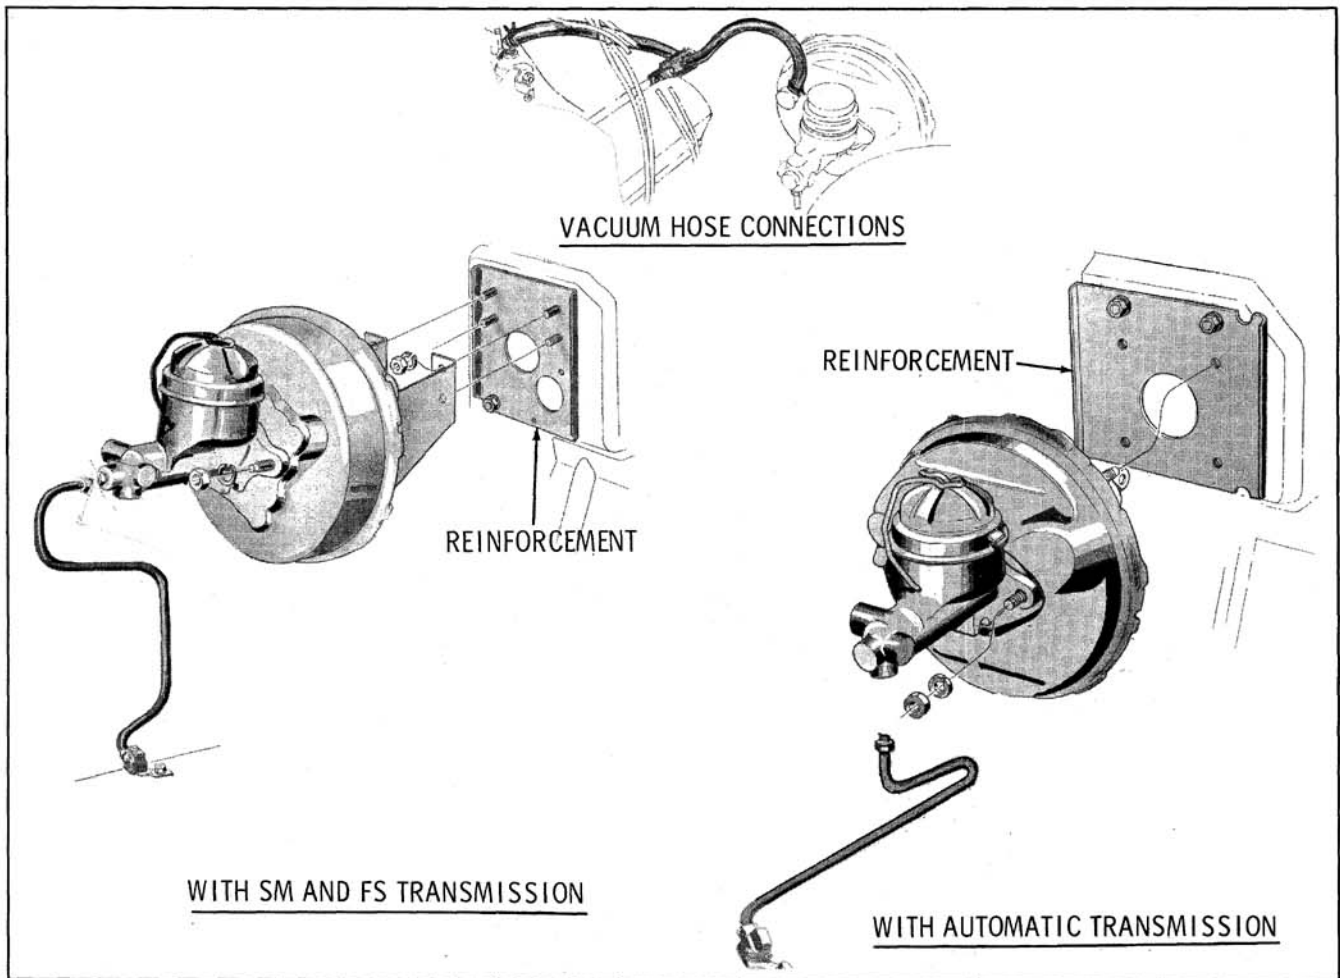

Fig. 11-24 Power Brake Mounting (52 through 86 Series)
**POWER BRAKE UNIT****Remove and Install (Fig. 11-24 or 11-25)**